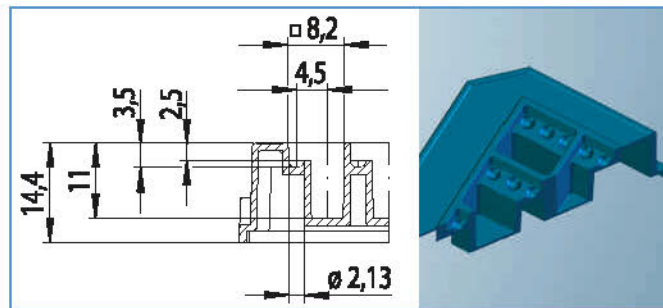
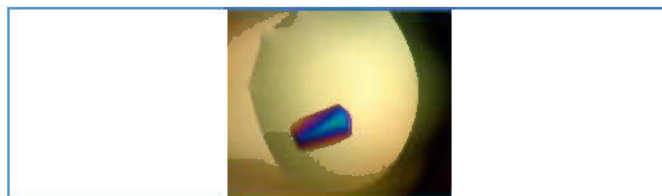

Figure 3: Well profile, CrystalQuick™ RW
Figure 4: Protein crystal in CrystalQuick™ RW, the image was kindly supplied by B. Blattmann, NCCR Structural Biology, Switzerland
LBR (low birefringence) plates are specifically designed for the use of polarised light. LBR plates for sitting drop applications are made from polyolefin which is characterised by very low birefringence in comparison with polystyrene plates (Fig. 3). Extreme transparency, high chemical resistance and low water absorption are further characteristics of LBR plates. In addition to providing low birefringent background, the LBR plates also exhibit extremely low autofluorescence. This feature makes them suitable for crystal detection with UV-light.
Figure 3: CrystalQuick™ plates in polarised light: (a) Standard versions with strong birefringence, (b) LBR versions with lower birefringence. (1) CrystalQuick™ RW (2) CrystalQuick™ SW (3) CrystalQuick™ LP
CrystalQuick™ RW (Round Wells Fig. 3, Fig. 4)